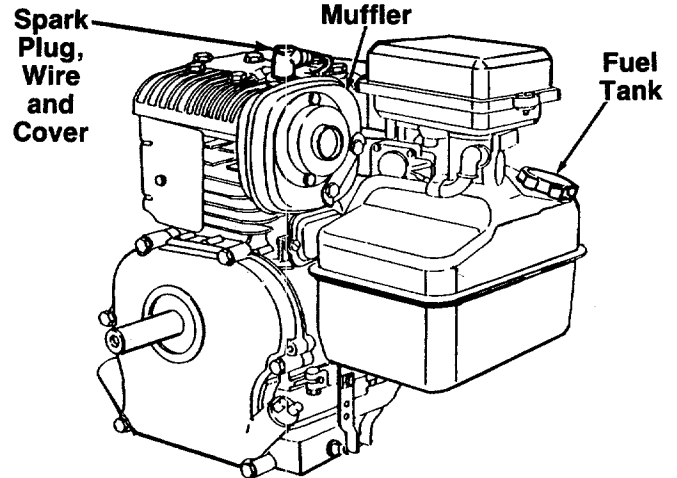

FIGURE 13.
- Fill fuel tank. See figure 13. Use fresh, clean, unleaded automotive gasoline. Capacity is 3 quarts.
- Attach spark plug wire and cover to spark plug. See figure 13.